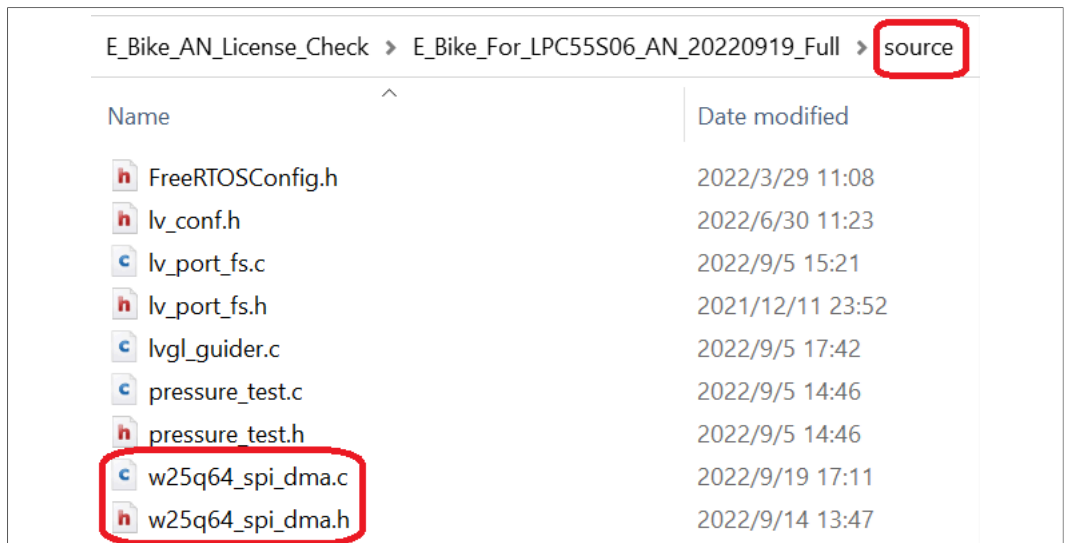
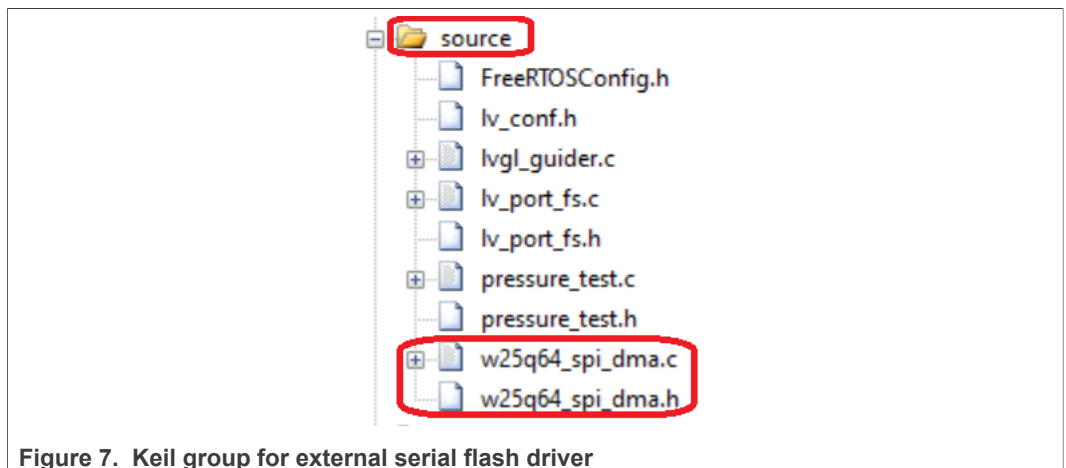

Figure 6. External serial flash driver directory
Figure 7. Keil group for external serial flash driver
3. Add source file and header file for driving external serial flash to the generated code project. Here we assume that you have used GUI Guider to complete the GUI page design and have generated a code project based on the Keil IDE. Figure 6 shows the directory where the driver files are stored in the code project folder. Figure 7 shows the group where the driver files are located in a Keil project.